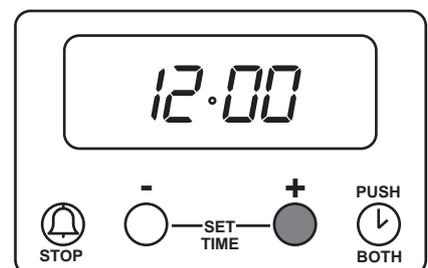

Fig. 5
**Within 5 seconds**, press and hold either button (1) to decrease or button (2) to increase the time until the correct time of day on the 24 hour clock is reached, e.g. 14.30. See Fig. 5.